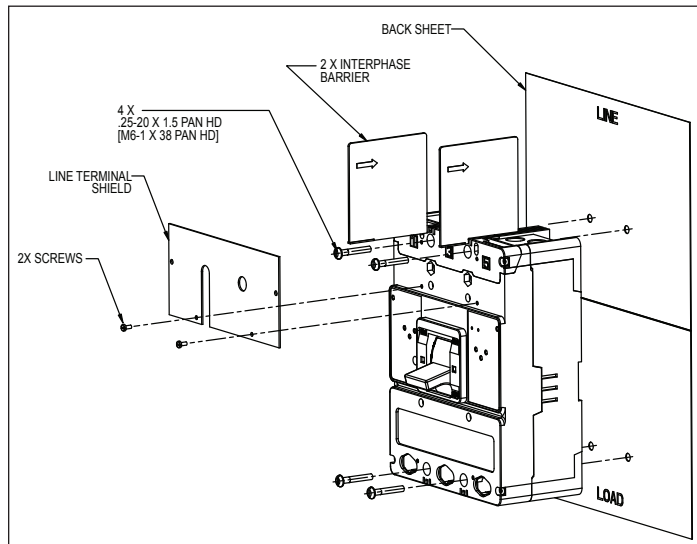

Figure 2. Installing Protective Barriers.
- a. Install back sheet per Fig. 2.